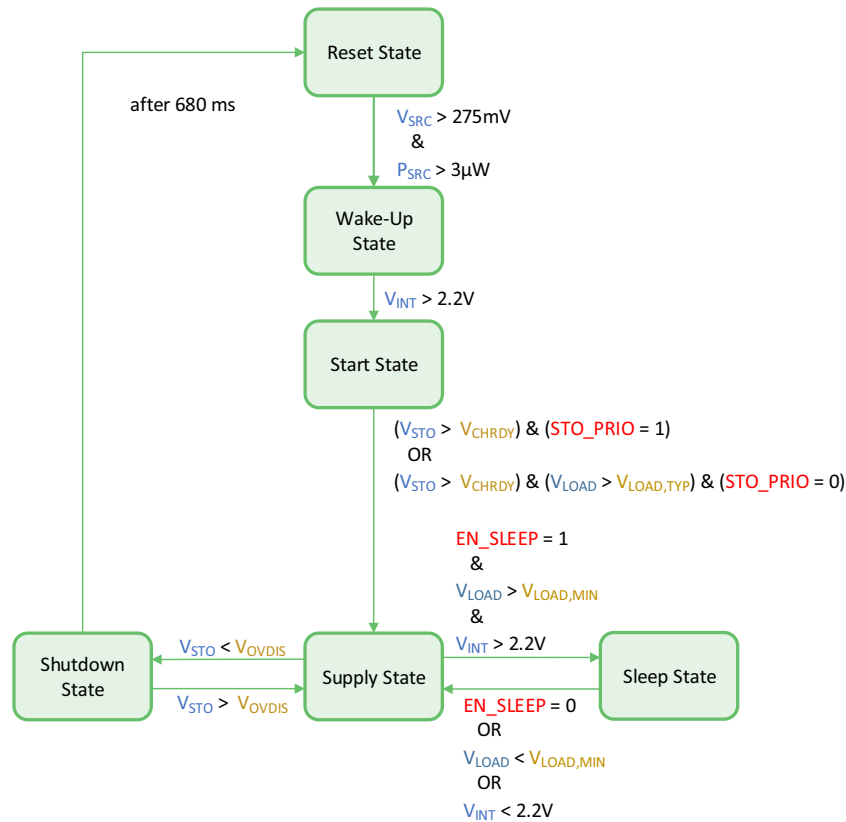

Figure 5: Diagram of the AEM00330 States
- If **EN_SLEEP** is HIGH and conditions (shown on Figure 5) on V_{LOAD} and V_{VINT} are satisfied, the AEM enters **SLEEP STATE** (see section 7.3.4).